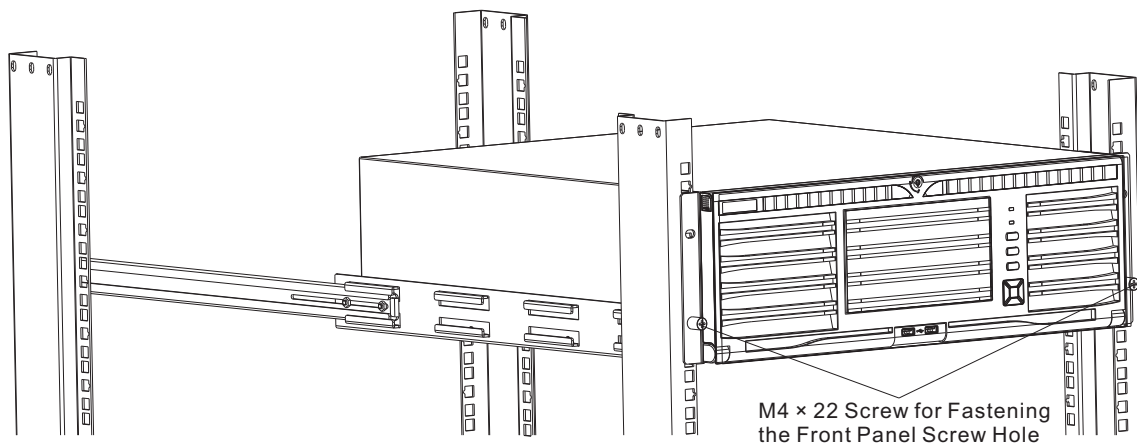

Figure 4 Fix the 3U Chassis Device with Brackets in Equipment Cabinet
(1) Device of 3U chassis and with brackets: place the device at the guide rail and push it to bottom. Use an M4 × 22 screw to fasten the front panel screw hole in each device bracket, as shown in Figure 4.